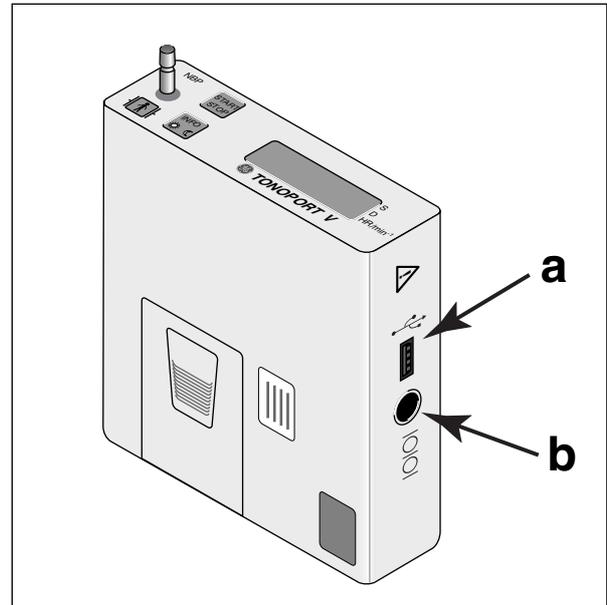

Fig. 5-1 Connections for PC cable
- via cable 2001589-040, if the USB port of TONOPORT V is used (**a** Fig. 5-1)
- via cable 2001589-011, if the serial port of TONOPORT V is used (**b** Fig. 5-1)
*If you will be using the serial port of TONOPORT V (Fig. 5-1, b) installation is now complete.*
*To be able to use the USB port of TONOPORT V (Fig. 5-1, a), you will have to install the USB driver and check the communication as described below.*